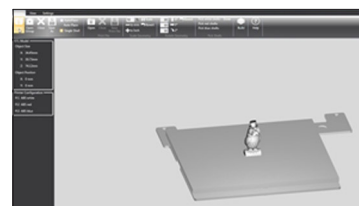

Fig. 65
1. With your first .stl file open, return to the open option. (Fig. 65)